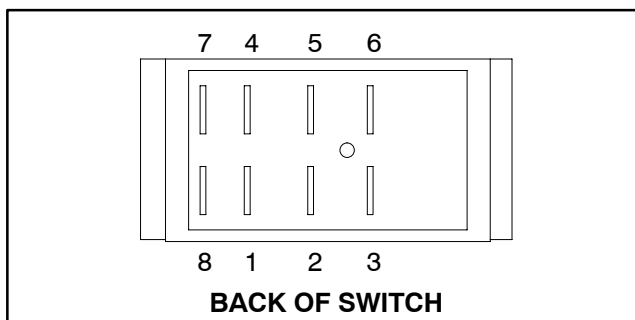

Figure 35
2. The switch terminals are marked as shown in Figure 35. In the ON position, continuity should exist between terminals 2 and 3 and also between terminals 5 and 6. In the OFF position, continuity should exist between terminals 1 and 2 and also between terminals 4 and 5.